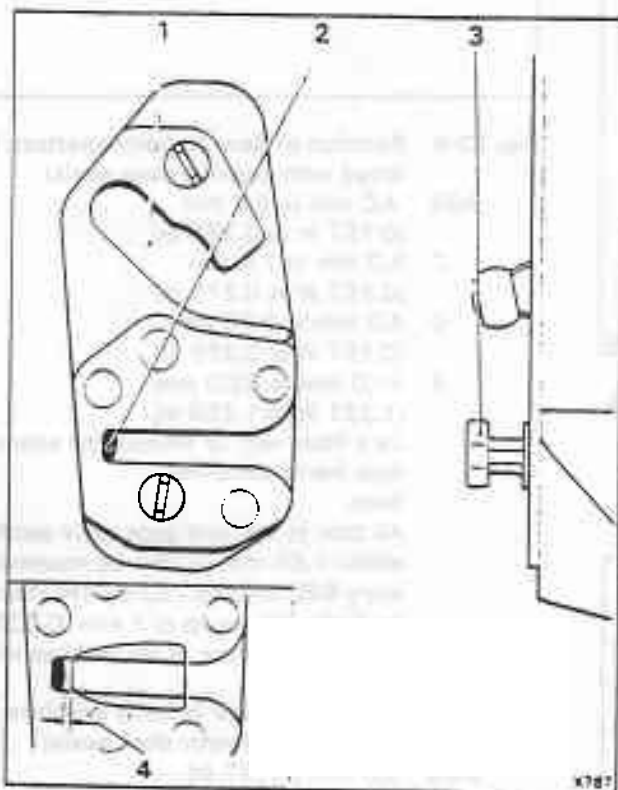

Fig. S3-7 Striker plate
9. With the door closed, check the amount of inboard/outboard movement of the door in the striker plate (i.e. the door overtravel). Door overtravel is determined by the relationship between the inner face of the door lock anti-burst flange and the rubber buffer located in the striker plate (see fig. S3-7, item 4).
If there is insufficient overtravel when closing the door (i.e. the door is hard to close) this is probably caused by excessive contact between the anti-burst flange and the rubber buffer (see fig. S3-7). However, check for other causes such as the door seal fouling, before moving the striker plate. If necessary, reduce the contact of the anti-burst flange and rubber buffer by carefully twisting the striker plate inboard about its upper securing screw up to a maximum of two serrations.